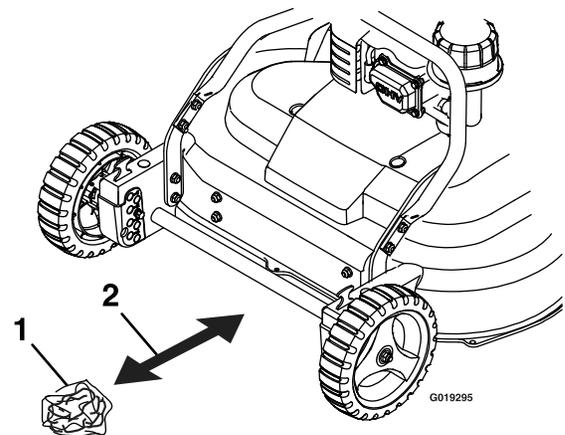

Figure 11
4. Take a half sheet of newspaper and crumple it into ball small enough to go under the deck (about 3 inches or 7.6 cm in diameter) as shown in Figure 11.